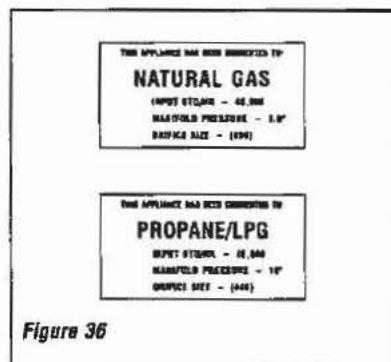

Figure 36
Step 9. Attach appropriate conversion kit label (Figure 36) to the rating plate on the appliance.